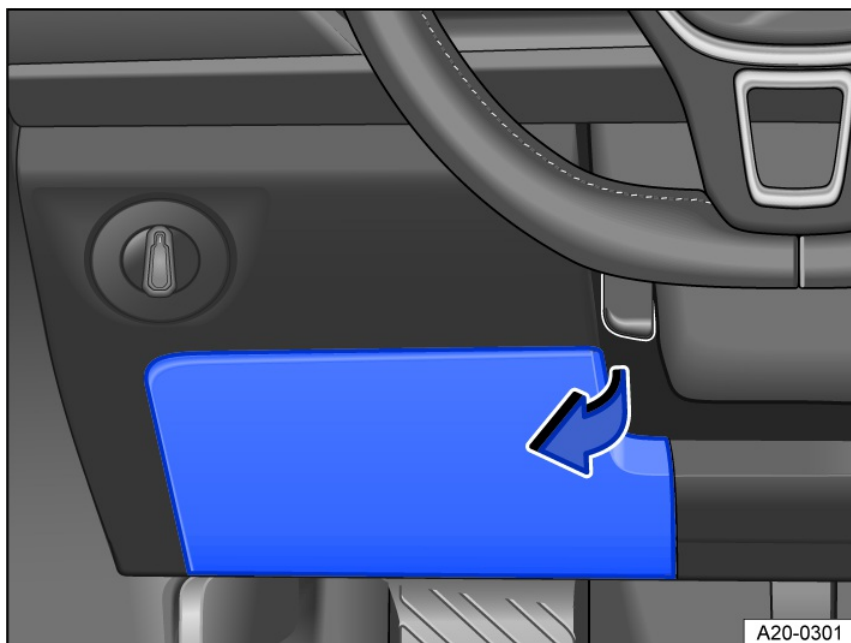

Fig. 138 Next to the steering wheel on the left: Cover for the fuse box in the instrument panel (general example).
1. Pull the cover to the side in the direction of the arrow and remove it *fig. 138*.
1. To *install*, push the cover into the dash panel mounts, in the opposite direction to the arrow, until it audibly engages *fig. 138*.